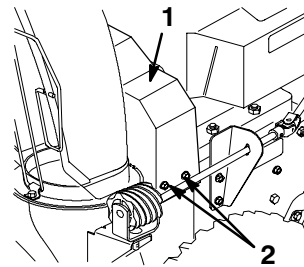

Figure 29
2. Remove the three screws that hold the belt cover in place and set the cover aside (Fig. 29).